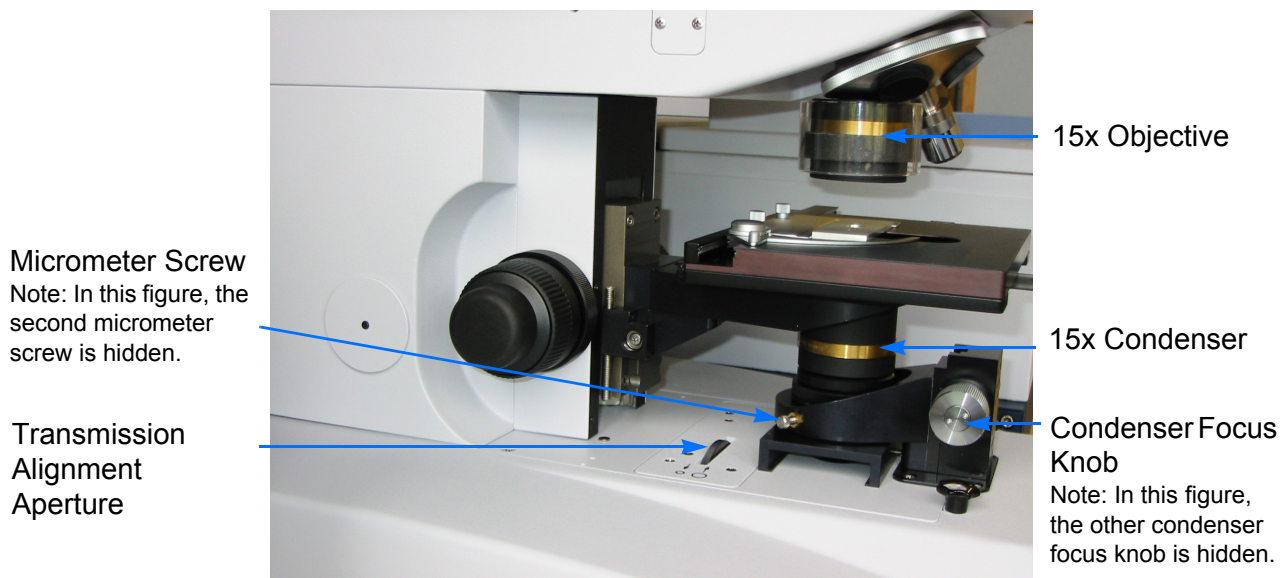
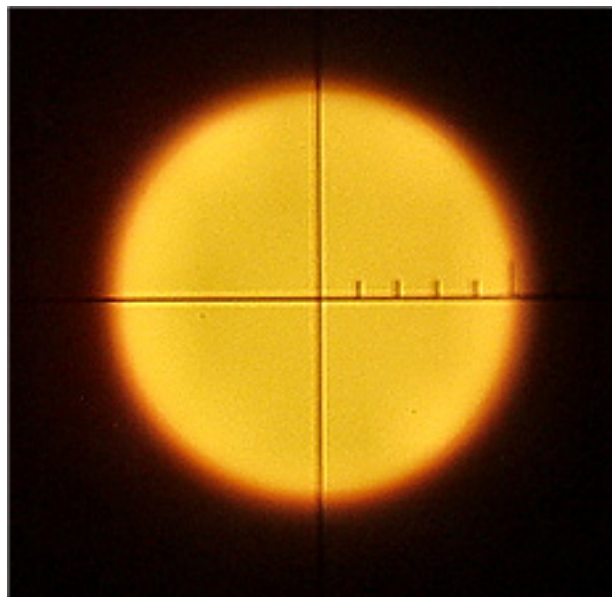

Figure 1: Microscope Setting Control Elements (Left Side View)
Figure 3: Image of the Transmission Alignment Aperture (focused and centered)
- Swing in the transmission alignment aperture. (This aperture is located behind the condenser. See figure 1.)
- Focus on to the transmission alignment aperture using the condenser focus knobs (figure 1) until you get a sharp image of the alignment aperture as shown in figure 3.
- Center the alignment aperture image with the cross hairs as shown in figure 3 using the two micrometer screws at the rear side of the condenser. See figure 1. (Note: The cross hairs is in the right ocular.)